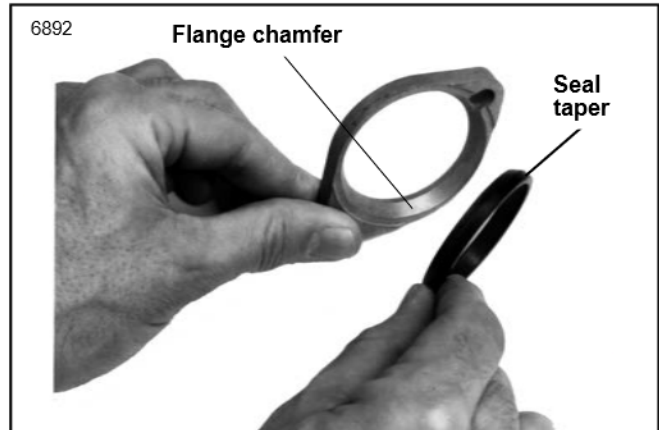

Figure 1. Relationship of Flange and Tapered Seal
3. See Figures 1, 2 and 3. Assemble the manifold as follows: